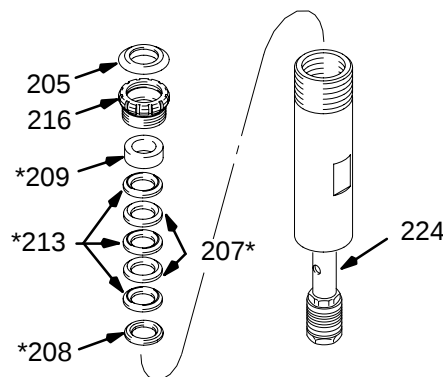

Fig. 26
2. Remove the plug (205). Unscrew the packing nut (216). See Fig. 26.
3. Tap the piston rod (224) down and pull it out the bottom of the cylinder (219). See Fig. 26.
4. Remove the throat packings. See Fig. 26.